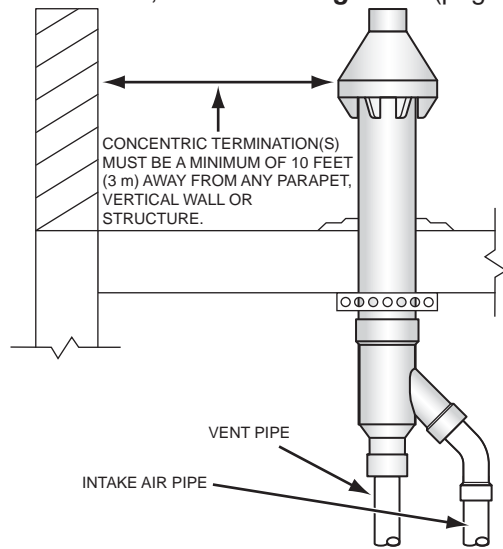

Figure 30. Concentric Termination - Flat Roof Clearance
4. When installing a concentric termination vertically through a flat roof, the termination's vent cap must be a minimum of 10 feet (3 m) away from any parapet, vertical wall or structure, as shown in **Figure 30** (page 28).